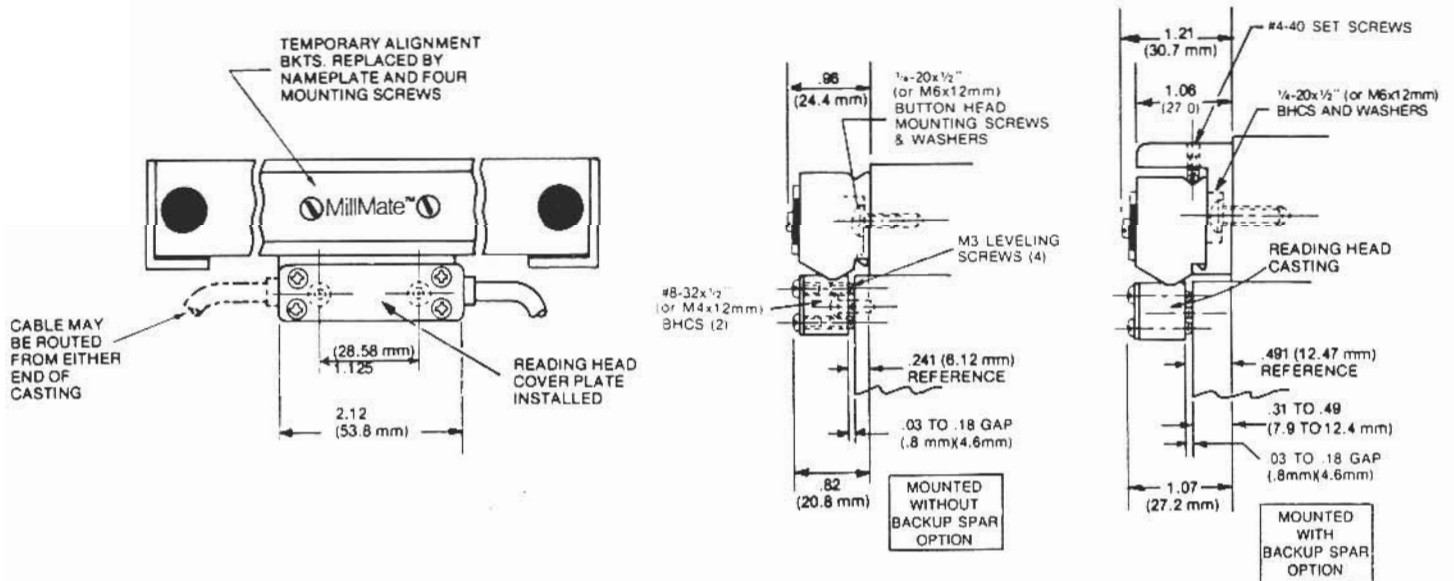

Figure 1-7. Assembly Dimensions and Mounting Data (Completely Installed).
12. Make sure that a space of .03" (.8 mm) to .18" (4.6 mm) remains between the reading head casting and its mounting surface. This space is required for proper adjustment of the reading head leveling screws (Figure 1-7).
14. There are four leveling jack screws (M3 x 8 HSS) located in the reading head casting (Figure 1-7). With the hex wrench provided in the scale mounting hardware, set the leveling screws to the mounting surface; place a .002" to .005" (.05 mm to .13 mm) thick paper strip or feeler gage behind each leveling screw and tighten until a slight drag can be felt on the paper strip or feeler gage. **Do not overtighten the leveling screws as the reading head casting will be forced out of proper alignment.**
14. There are four leveling jack screws (M3 x 8 HSSS) located in the reading head casting (Figure 1-7). With the hex wrench provided in the scale mounting hardware, set the leveling screws to the mounting surface: place a .002" to .005" (.05 mm to .13 mm) thick paper strip or feeler gage behind each leveling screw and tighten until a slight drag can be felt on the paper strip or feeler gage. **Do not overtighten the leveling screws as the reading head casting will be forced out of proper alignment.**